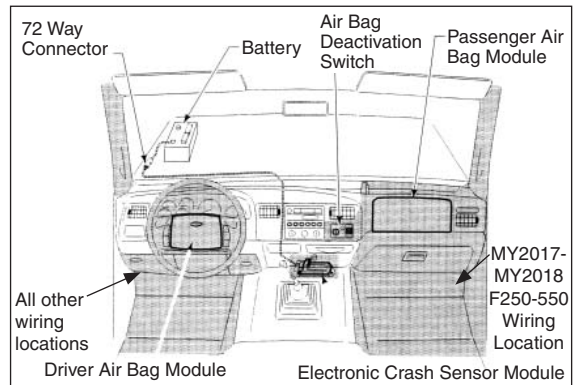

Figure 29
2. Locate a position in the cab for mounting the PTO switch and mounting bracket. The shaded area in **Fig. 29** shows the Occupant Protection Zone of the deployed air bags that are available in these vehicles.